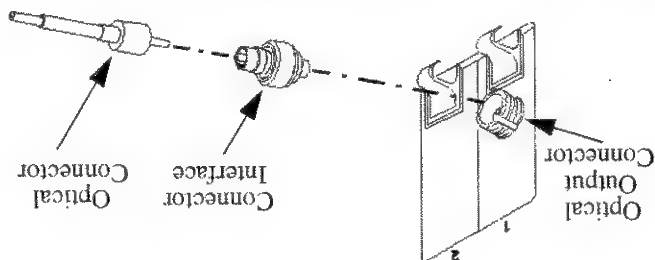

Figure 161 Adding a Connector Interface
- 2 Connect the connector interface to the optical output connector of the module, see Figure 161.